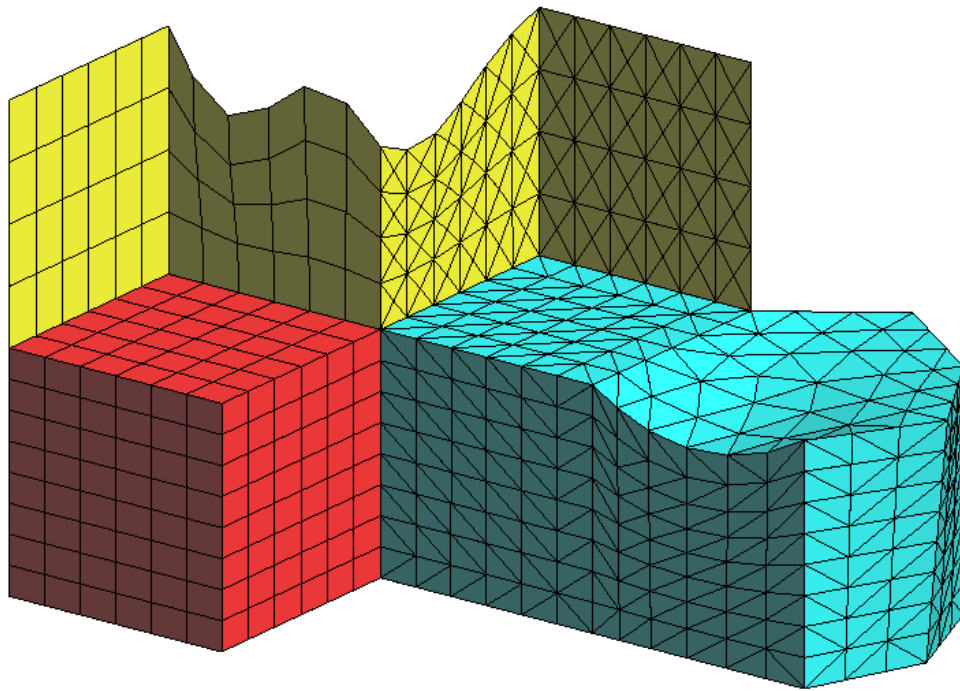

Figure 11. Semi-structured volume mesh of tetrahedra.
- 7 . Another window appears in which to enter the maximum element size. Leave the default value unaltered and click **OK**. The result is the mesh shown in Figure 11.